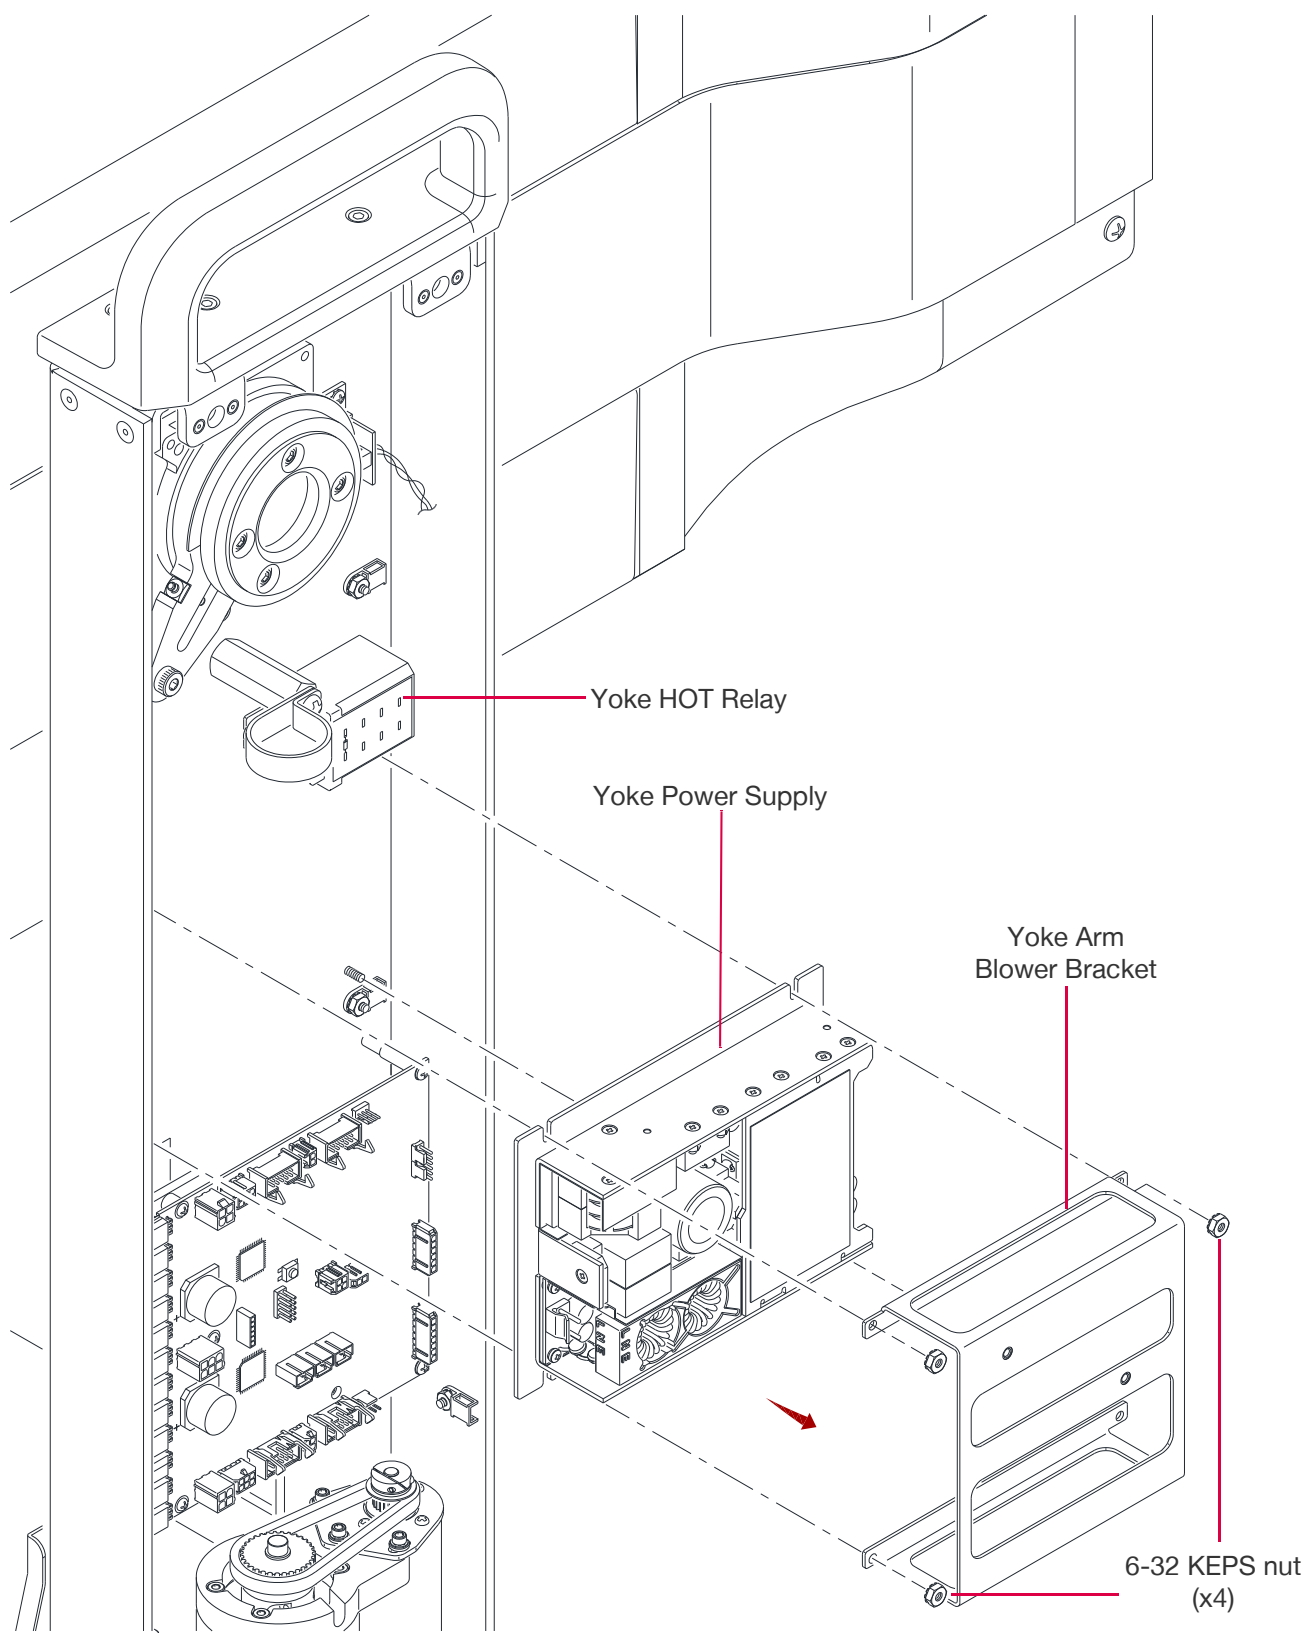

Figure 3-47: Replacing the Yoke Power Supply
- Step 3. Remove the four 6-32 KEPS nuts from the Yoke Arm Blower Bracket -- it is not necessary to remove the Yoke Arm Fan from the Bracket for this procedure, the Bracket/Blower assembly can hang loose while you change the Power Supply. (See **Figure 3-47** on the next page)